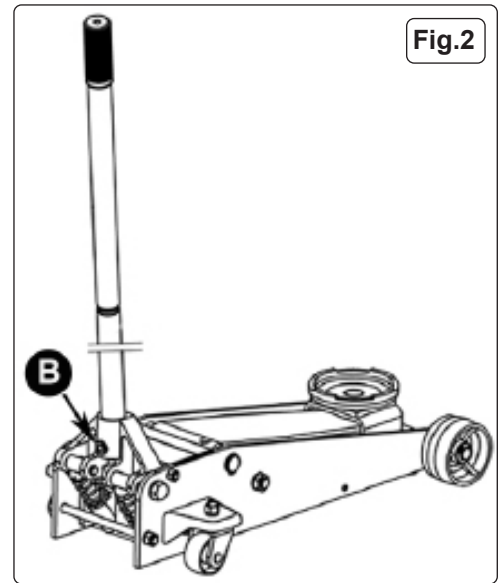

Fig.2
- 4.4. Ensure that the handle is correctly inserted into the socket, then tighten the handle socket screw fig.2-B.